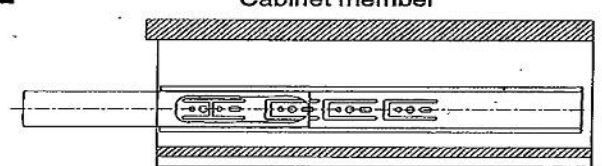

Fig. 4
4. Before inserting the drawer, please make sure the ball retainers in the external slides are fixed at the front. (Fig.4)